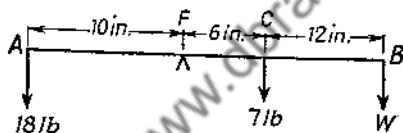

Fig. 66
(2) In fig. 66 calculate the value of  $W$  if the rod is to balance.